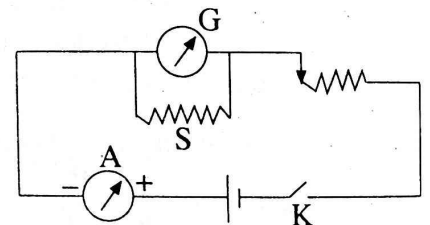

Fig. 15.30
- (i) A length of the wire 2 to 3 cm more than l as calculated above is cut. It is connected in parallel with the given galvanometer as shown in the fig. 15.30.